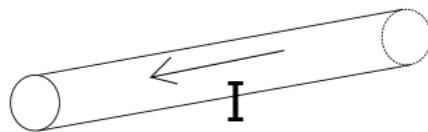

Figure 5.1: Wire with a current  $I$  going from right to left.
5. Imagine stacking multiple wires similar to that of Fig. 5.1 parallel to each other, with the current of each all running in the same direction. Would the magnetic field close to the stack of wires be greater, equal or smaller than the scenario with a single wire?